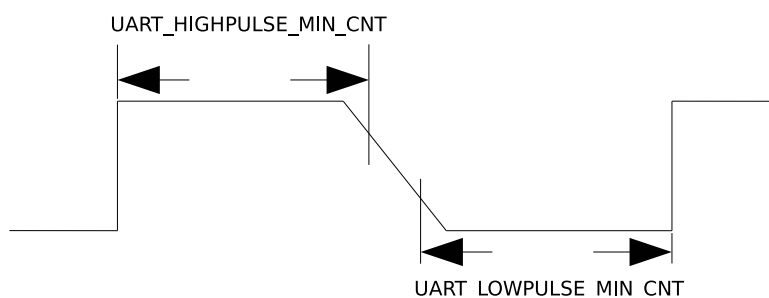

Figure 22.4-2. The Timing Diagram of Weak UART Signals Along Negative Edges
Automatic baud rate detection (Autobaud) on UARTs is enabled by setting `UART_AUTOBAUD_EN`. The Baudrate_Detect module shown in Figure 22.4-2 filters any noise whose pulse width is shorter than `UART_GLITCH_FILT`.
2. If UART signals are weak along negative edges as shown in Figure 22.4-2, which leads to an inaccurate average of `UART_LOWPULSE_MIN_CNT` and `UART_HIGHPULSE_MIN_CNT`, use `UART_POSEDGE_MIN_CNT` to determine the transmitter's baud rate as follows: